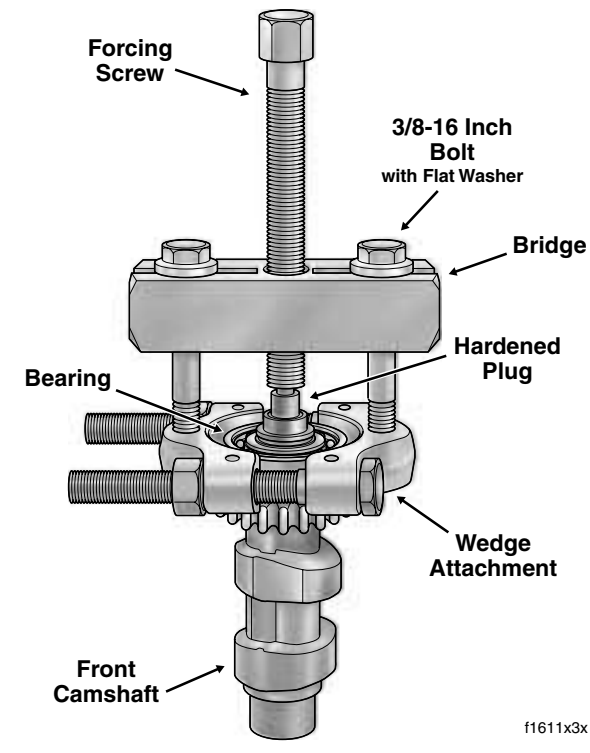

Figure 3-107. Remove Camshafts/Front Cam Bearing
- f. Verify that the tool assembly is square so that the bearing is not cocked during removal. See lower frame of Figure 3-107. Turn forcing screw until bearing is pulled free of camshaft. Discard bearing.